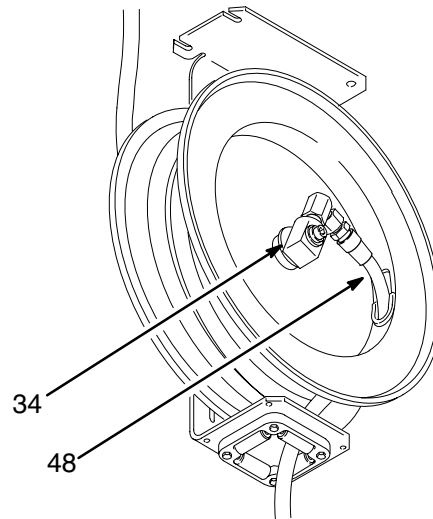
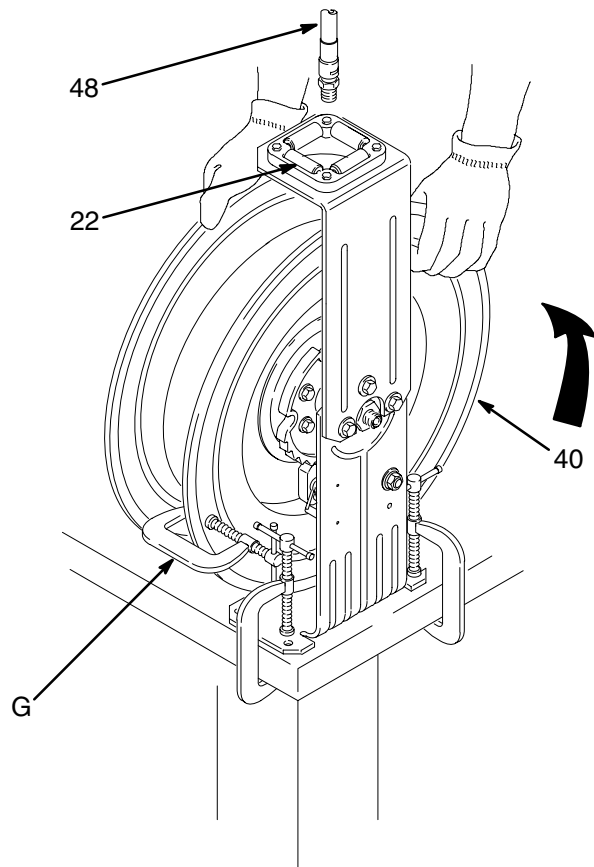

Fig. 9
Fig. 10
3. Wearing heavy gloves, firmly grab the outside edge of the reel flange with both hands. See Fig. 10. Wind the reel the proper number of turns, rotating it in the direction shown in Fig. 10, and stop only at latching locations. Stop the reel where there is access to the hose swivel (34) (see Fig. 9) and where the reel is securely latched.
4. Before you install the hose, attach a C-clamp (G) to the reel flange to help prevent the reel from unintentionally becoming unlatched and spinning freely. See Fig. 10.
6. Attach the hose (48) to the hose reel swivel (34), and carefully remove the C-clamp. See Fig. 9.